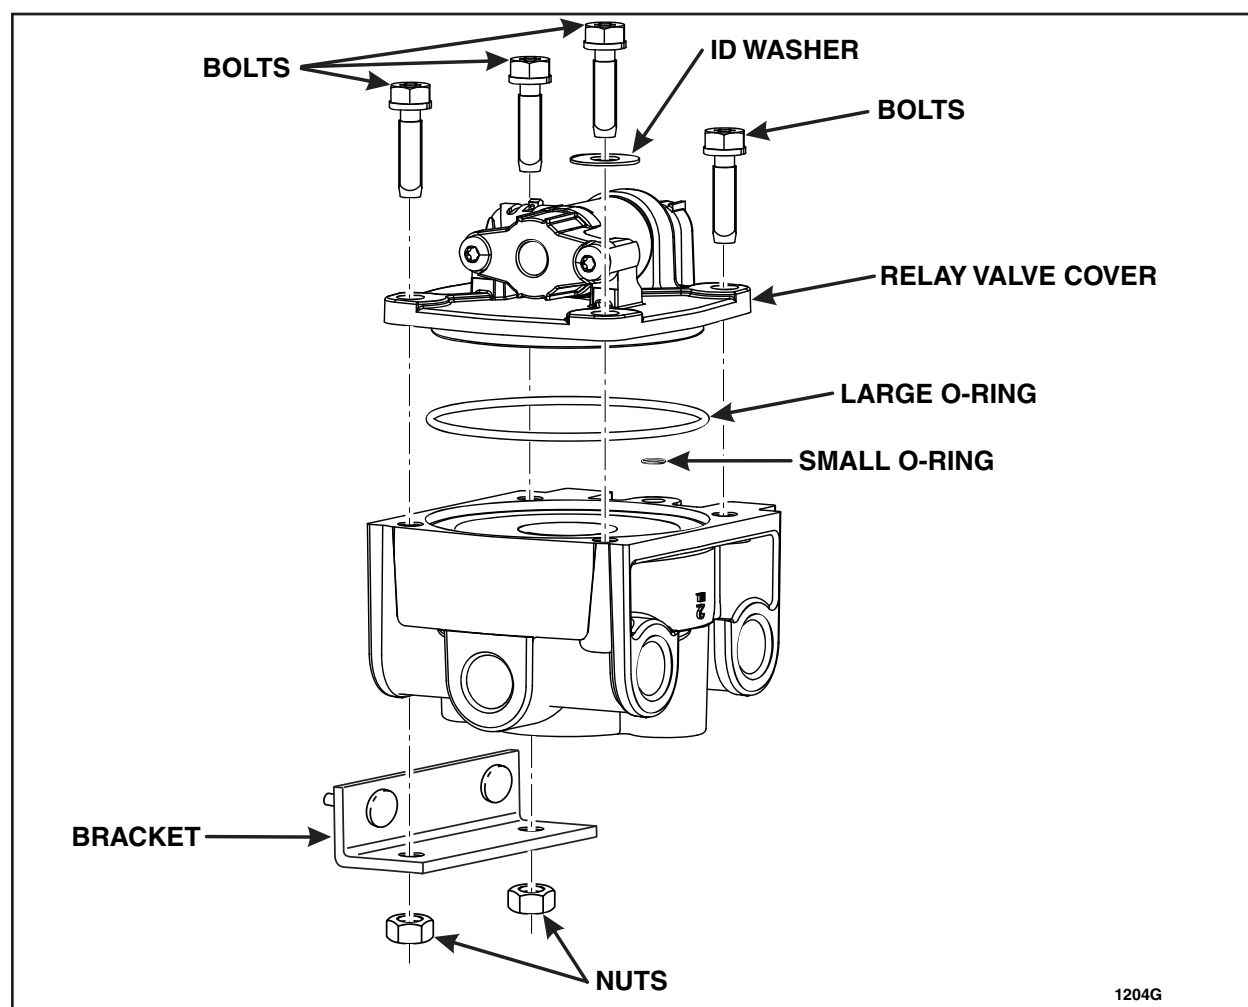

FIGURE 7
11. Mark the orientation of the relay valve cover and bracket. Also note the location of the bolts and ID washer. See Figure 7.
12. Remove the relay valve cover and bracket from the relay valve. See Figure 7.
13. Remove and discard the large and small relay valve o-rings. See Figure 7.
Install the relay valve cover bracket, bolts, ID washer, and nuts. See Figure 7.